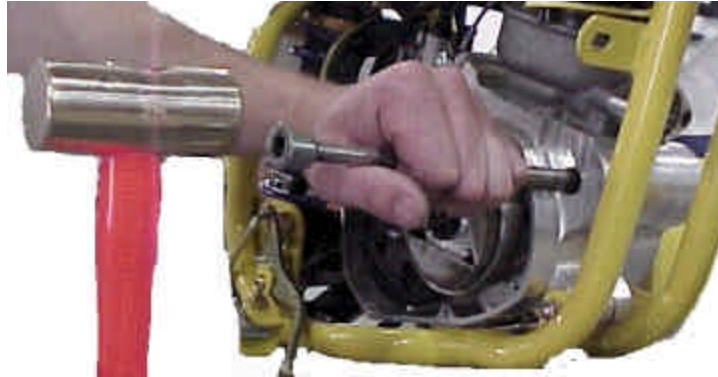

Figure 3
11. Heat engine case around area of impeller lightly with a propane torch. Using a 3/8" diameter x 8" long steel rod, tap impeller assembly out of engine as shown in figure 3.